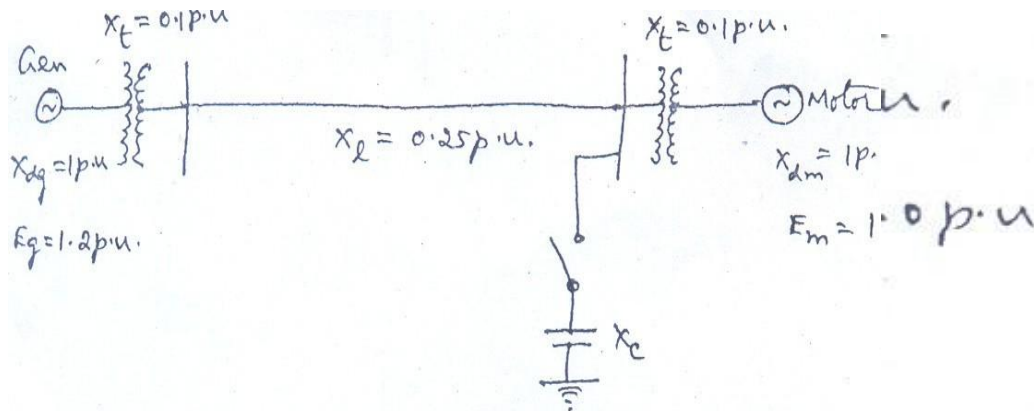

Fig.5
- 5 In the system shown in Fig. 5 a three phase static capacitive reactor of reactance 1 p.u. per phase in connected through a switch at motor bus bar. Calculate the limit of steady state power with and without reactor switch closed. Recalculate the power limit with